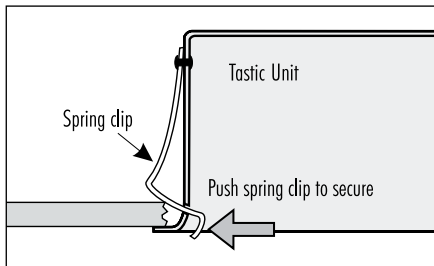

Fig. 26
3. To secure the Tastic in position, push lower ends of springs apart (Fig 26). Ceiling board thickness should be adjusted to enable springs to be fitted without excessive force.